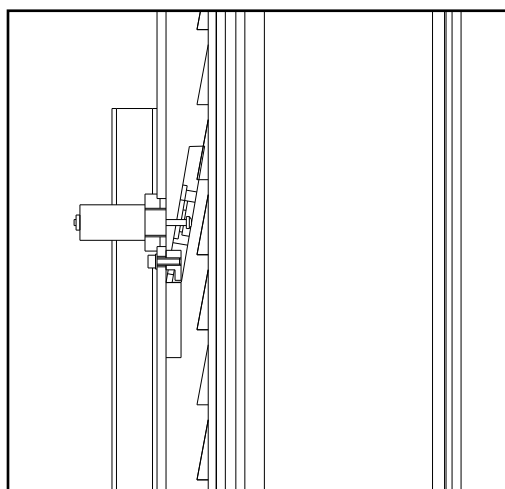

Fig. 15
- ◆ If the hydraulic cylinder breaks, the safety wedges will trip (Fig. 15), located inside the posts. The wedges are pushed by the spring and immediately stop the carriage preventing their descent.